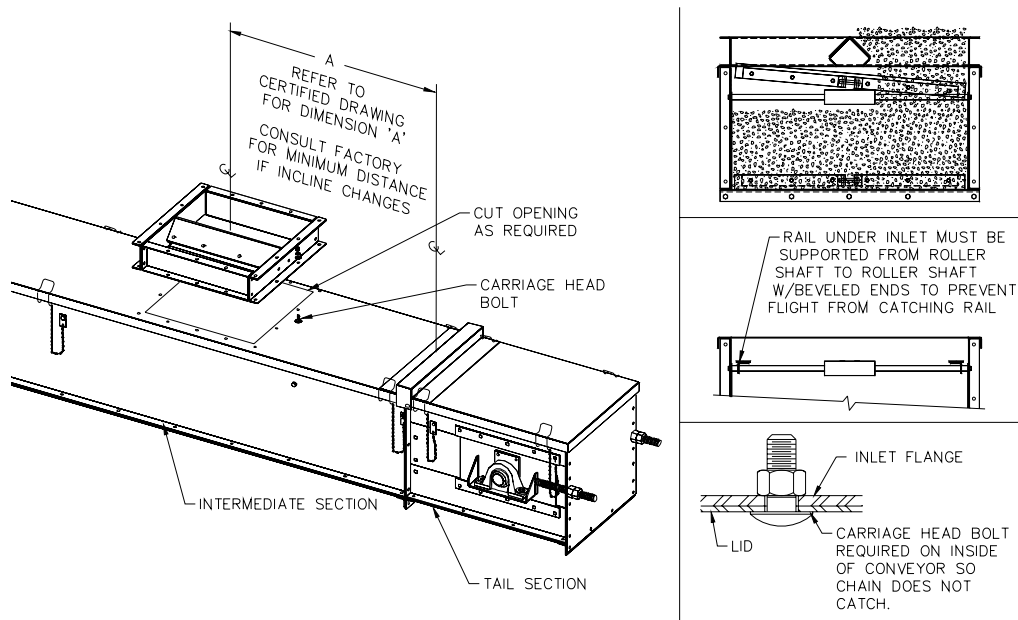
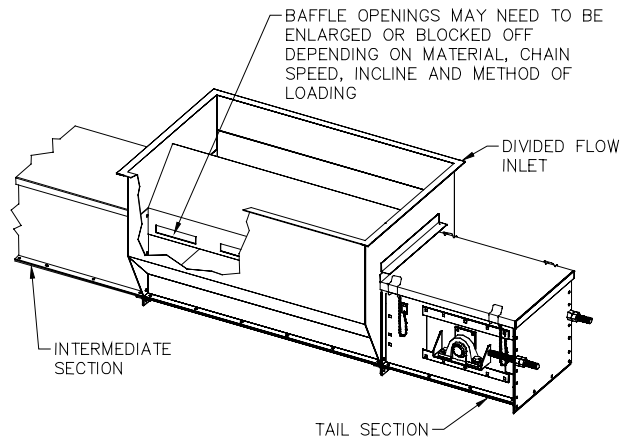
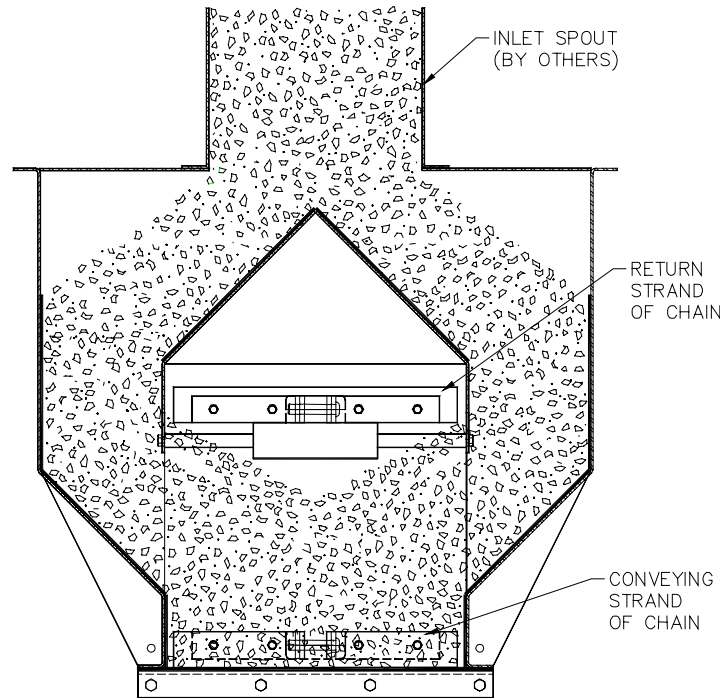

Figure 2-7A, Inlet Installation
Figure 2-7B Divide Flow Installation
Figure 2-7C Divided Flow Inlet Cross Section
- G. CONVEYORS WITH DIVIDED FLOW INLETS ONLY! If the conveyor includes a Divided Flow Inlet Assembly, it is usually assembled to the conveyor immediately preceding the tail section. See **Figure 2-7B**.
Figure 2-7A illustrates the procedure required to attach a standard inlet. Be sure to maintain the Minimum "A" Dimension as shown, otherwise conveyed material will accumulate in the tail section behind the tail sprocket and conveyor capacity may be reduced due to improper loading. This dimension changes with incline and is specified on the certified drawings for each conveyor. Always make certain chute work or spouting to the inlet feeds the conveyor in the center and from the top. If fed too heavily on one side, conveyor capacity is reduced and uneven chain loading can result. In the case of conveyors with return rollers, chain and flights will "tip" if fed off center, which could damage roller assemblies and cause flight wear. Never allow an inlet to feed material onto a roller shaft assembly. If inlet location is not changeable, then move the roller shaft assemblies out from underneath the inlet opening, either toward the head or tail end of the conveyor. Be certain the distance between roller shaft centers does not exceed 38". It may also be necessary, due to spout configuration, to add a rail beneath the chain flight tips to prevent the flights from tipping, caused by uneven material flow. (See **Figure 2-7A** inset). Wider conveyors can be more susceptible to this condition. If the conveyor includes a **Divided Flow Inlet Assembly**, it is usually assembled to the conveyor immediately preceding the tail section. See **Figure 2-7B**.
Figure 2-7B shows the installation of divided flow type of inlet. A divided flow inlet is "self metering" in that the material is allowed to flow into the sides of the conveyor, and only fill the trough to the level equal to the angle of repose of the material. See **Figure 2-7C** for theory of operations. Because all materials handle differently, the ports on the side wall may at times need to be enlarged upward to increase capacity, or in some cases, reduced or blocked off entirely if too much material is flowing in.